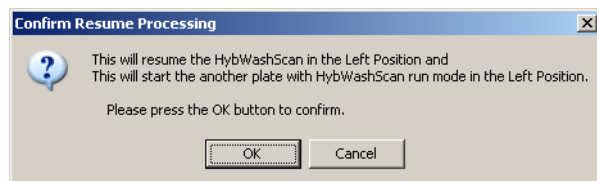

Figure 64 Confirm Resume Processing message
- e. Click **OK** when prompted (Figure 64).